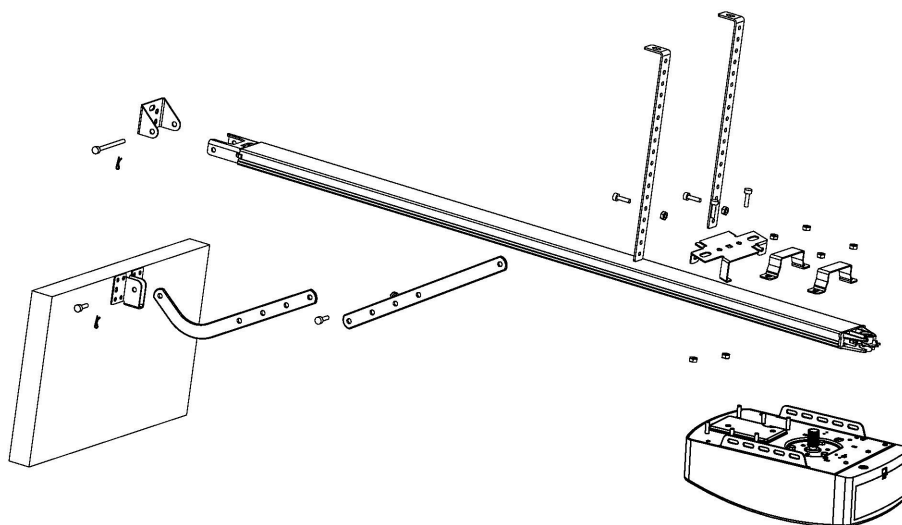

Figure 3
STEP 1 (Fig.3)
STEP 2 (Fig.3)
STEP 3 (Fig.3, Fig.4)
STEP 4 (Fig.3, Fig.5)